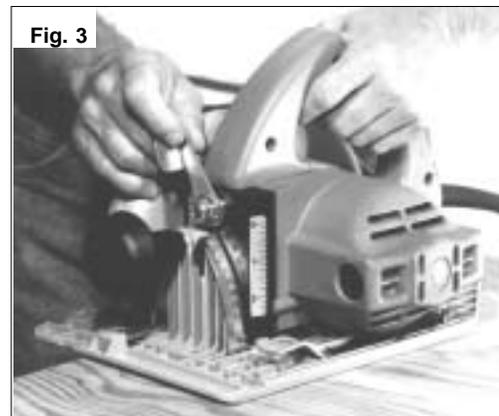

Fig. 3
Adjusting Depth (7-1/4" Saws) (Fig. 3 & 4)
2. To adjust the depth of the cut, place the saw on the edge of the workpiece. While holding the saw by the handle, loosen the depth adjusting lever by lifting it up and moving toward the blade (Fig. 3).